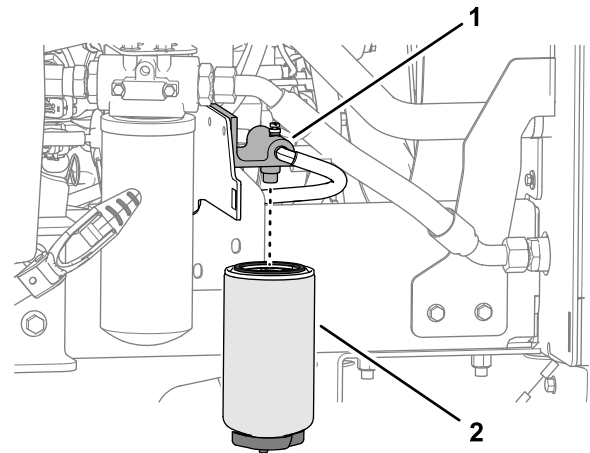

Figure 56
1. Place a clean container under the fuel filter canister (Figure 56).
3. Clean the area around the fuel filter and filter head (Figure 56).
4. Remove the filter canister and clean the filter head (Figure 56).